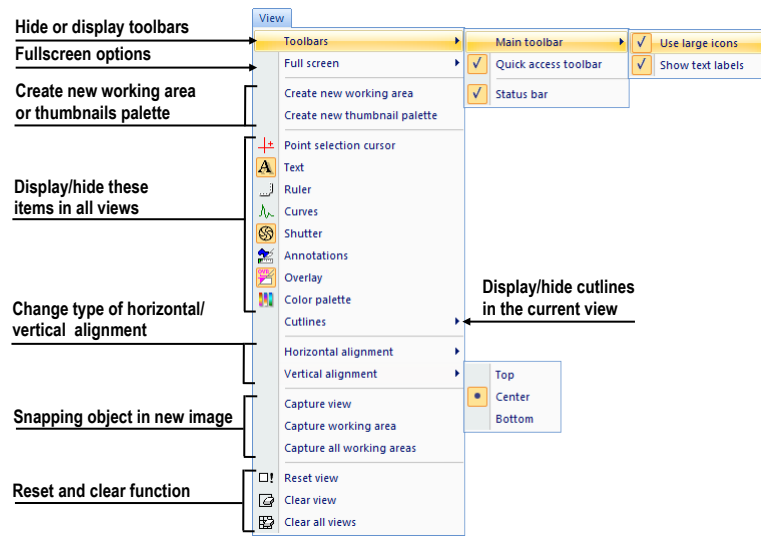

Figure 40 – View menu
- **View** – displaying/hiding toolbars, image descriptions, cutlines, changing the current view size, deleting views, creating new working areas or thumbnails palettes and changing alignment of images in views (see Figure 40).